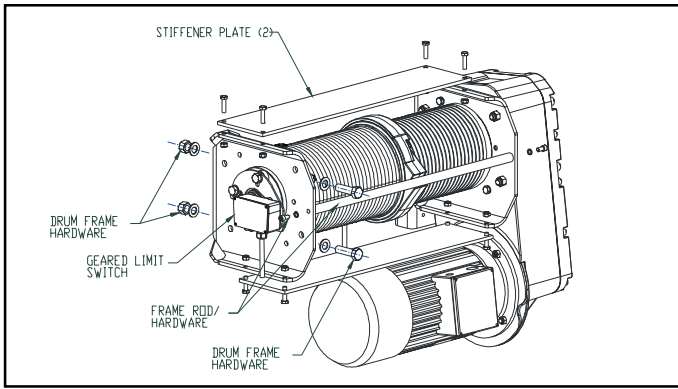

Figure 5-6. Drum Frame & Geared Limit Switch ("B" & "C" Frame Shown)
- b) Remove the geared limit switch or disconnect the wires so that the electrical cable will not inhibit removal of the drum. (see Figure 5-6).
- c) Remove the unit from service, place it on the ground and provide adequate means to support the drum before removing the frame rod cap screw(s) and stiffener plate hardware ("B" & "C" Frame only) at the outboard end drum frame (see Figure 5-6).